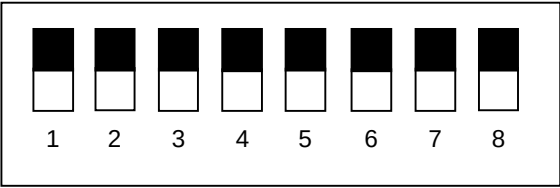

Figure 6.12.2 DIP switches (Being set for Standard setting)
(3) Set the DIP switch No.4 as shown in Figure 6.12.2.